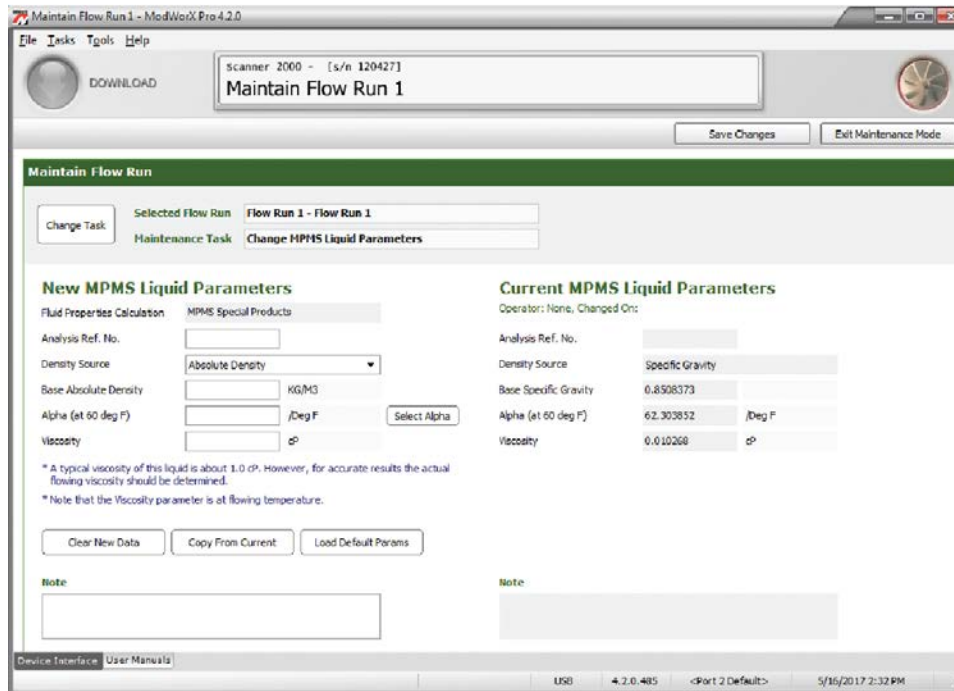

Figure 9.14
7. If Special Products is selected as the fluid type for the MPMS fluid properties calculation method, enter the fluid's expansion coefficient "alpha" (Figure 9.14, page 130) in accordance with MPMS Chapter 11.1. You may enter a numeric value, or click the **Select Alpha** button to select a predetermined alpha value for products such as ethanol and gasohol.